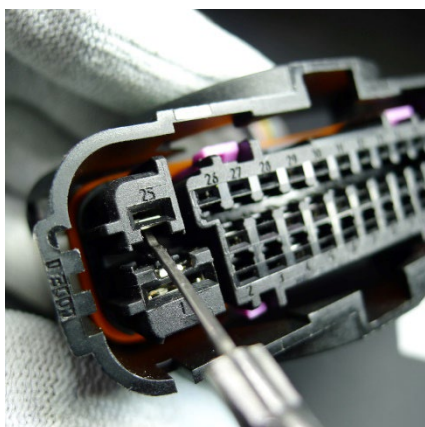
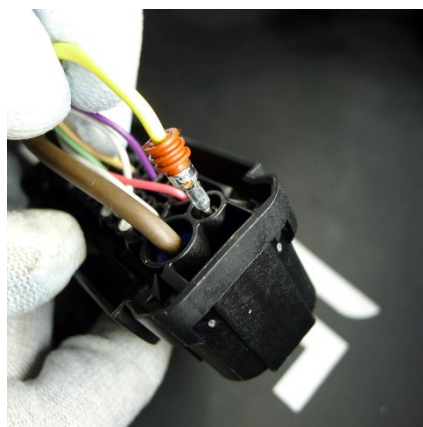

Figure 11
Figure 12
12. Use the tool from the pin drag kit to release the lock for terminal 25 of connector X151 (Figure 11), and at the same time, remove the yellow wire from receptacle 25 (Figure 12).